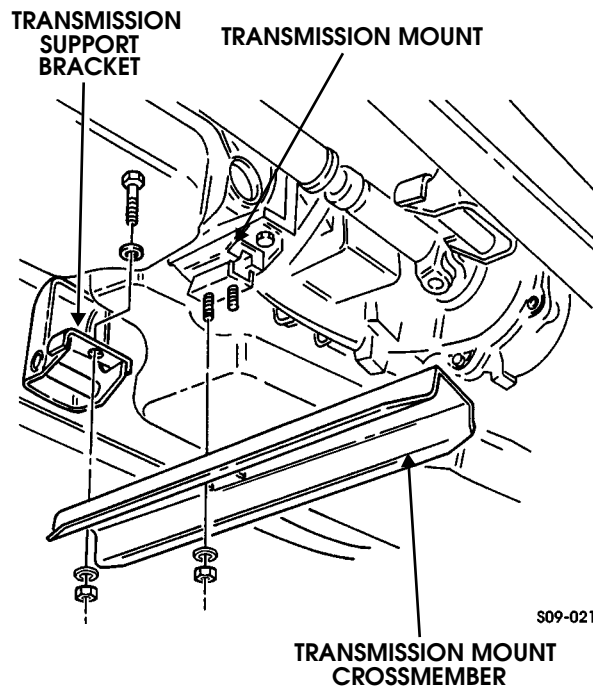

Figure 9-141: Transmission Mount Crossmember Replacement
1. Place support under transmission and remove two locknuts, washers, bolts, and washers securing transmission mount crossmember to two transmission support brackets (Figure 9-141).
1. Install transmission mount crossmember on two transmission support brackets with two washers, bolts, washers, and locknuts. Tighten locknuts to 90 lb-ft (122 N•m) (Figure 9-141).